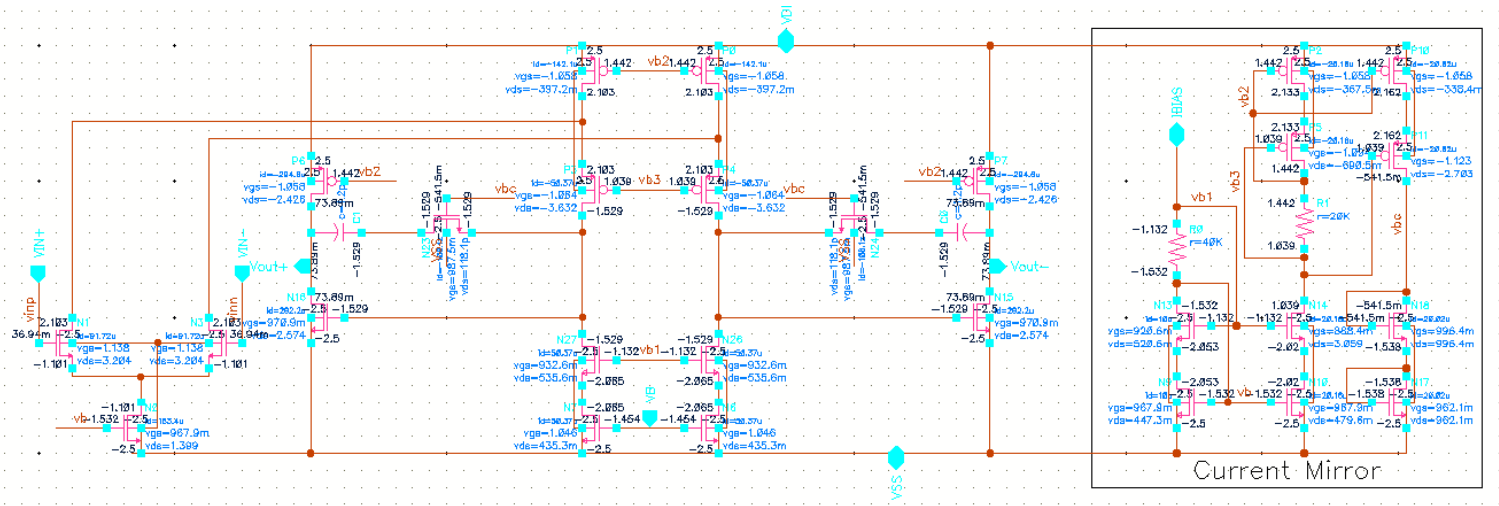

Fig 1
1. A former graduate student was trying to design a folded cascode two stage op amp. As shown in Fig 1, at first the circuit was biased by current mirror. After the amplifier was designed, he claimed that with finite resolution of current mirror transistor sizes, it is impossible to make every transistor in saturation region. Instead, he added an independent voltage supply at “VB” and swept it. A voltage, which corresponds to 12 significant-digits, was found.